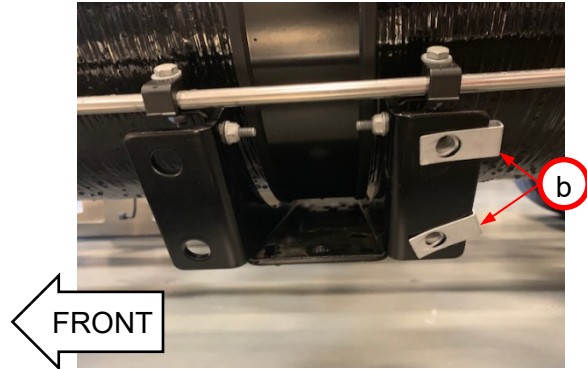

Figure 3:
1. Using a transmission jack, position cylinder shield mounting holes (*not shown*) to line up with corresponding clips (b) on outside of cylinder brackets. *Figures 3 & 4*